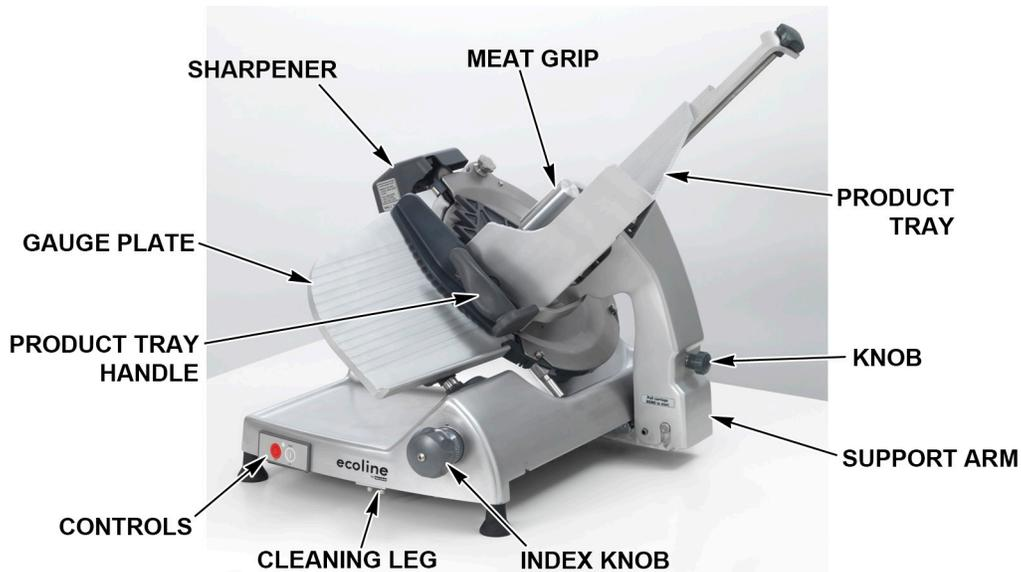
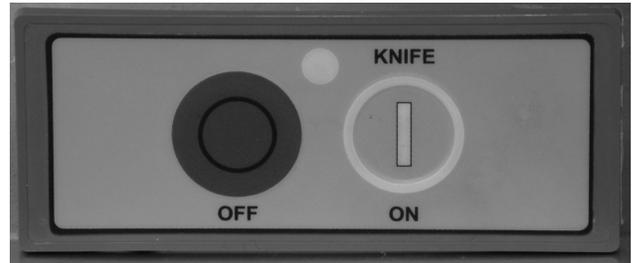

Fig. 1
Fig. 3
The Product Tray (Fig. 1) must be installed.
- Close the Gauge Plate (Fig. 1) by turning the Index Knob (Fig. 1) fully clockwise.
- Pull the Product Tray (Fig. 1) toward the operator until it reaches its stop. This is the home position.
- Raise the Meat Grip (Fig. 1) to the top of the Product Tray to rest in the Meat Grip Slot.
- Place the product to be sliced against the Gauge Plate (Fig. 1) on the Product Tray (Fig. 1).
- Turn the slicer on by pressing the KNIFE ON button (Fig. 3).
- Use the Product Tray Handle (Fig. 1) to push and pull the Product Tray back and forth to slice. When finished, pull the Product Tray forward until it stops. Turn the Index Knob fully clockwise to close the Gauge Plate, this will turn the slicer off. The OFF Button (Fig. 3) can also be pressed to stop the slicer.